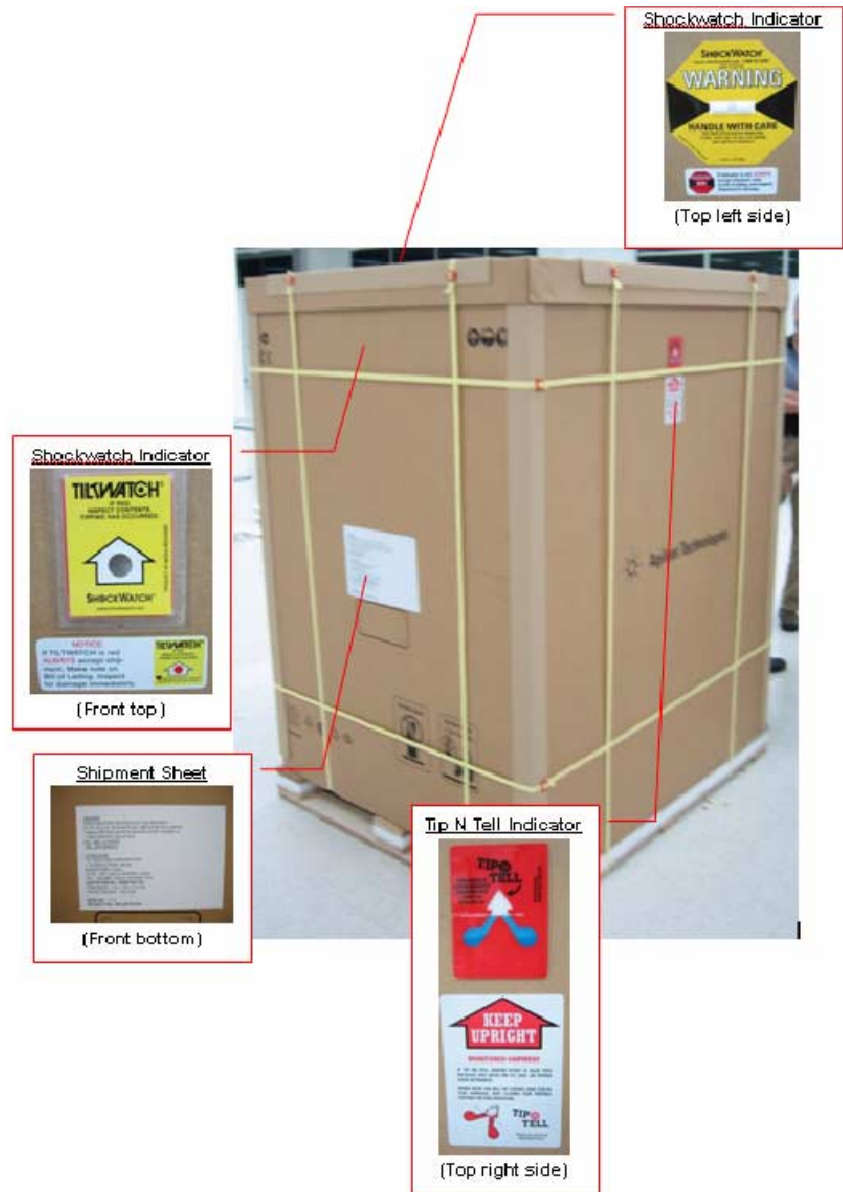

Figure 3-1 Locations of indicators and sensors
- 1 Check all the Tip’n’tell indicators and shock sensors. Figure 3-1 shows their locations on the box. Refer to the details on the indicators to verify pass or failure.